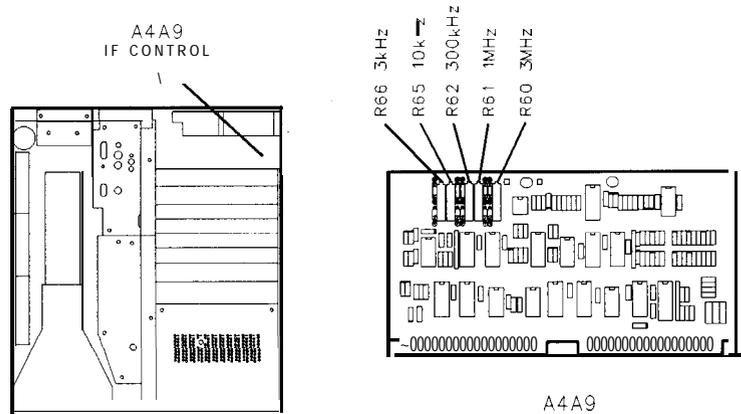

Figure 4-7. Location of Bandwidth Adjustments
6. Press **(PEAK SEARCH)**, **MKR → (CF)**, and MARKER (al).
8. Adjust A4A9R60 3 MHz for MKR In] indication of 1.5 MHz while maintaining the marker at .500 X using the DATA knob. Refer to Figure 4-7 for the adjustment location.
14. Adjust A4A9R61 1 MHz for MKR A indication of 500 kHz while maintaining the marker at 0.500 X using the DATA knob. Refer to Figure 4-7 for the adjustment location.
20. Adjust A4A9R62 300 kHz for MKR A indication of 150 kHz while maintaining marker at .500 X using the data knob. Refer to Figure 4-7 for location of adjustment.
26. Adjust A4A9R65 10 kHz for MKR A indication of 5.00 kHz while maintaining the marker at .500 X using the DATA knob. Refer to Figure 4-7 for the adjustment location.
32. Adjust A4A9R66 3 kHz for MKR A indication of 1.5 kHz while maintaining the marker at .500 X using the DATA knob. Refer to Figure 4-7 for the adjustment location.